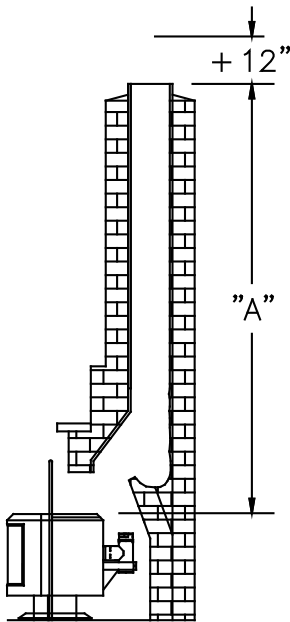

Figure 18
3. Measure and record the dimensions as shown in (**Figure 18**).